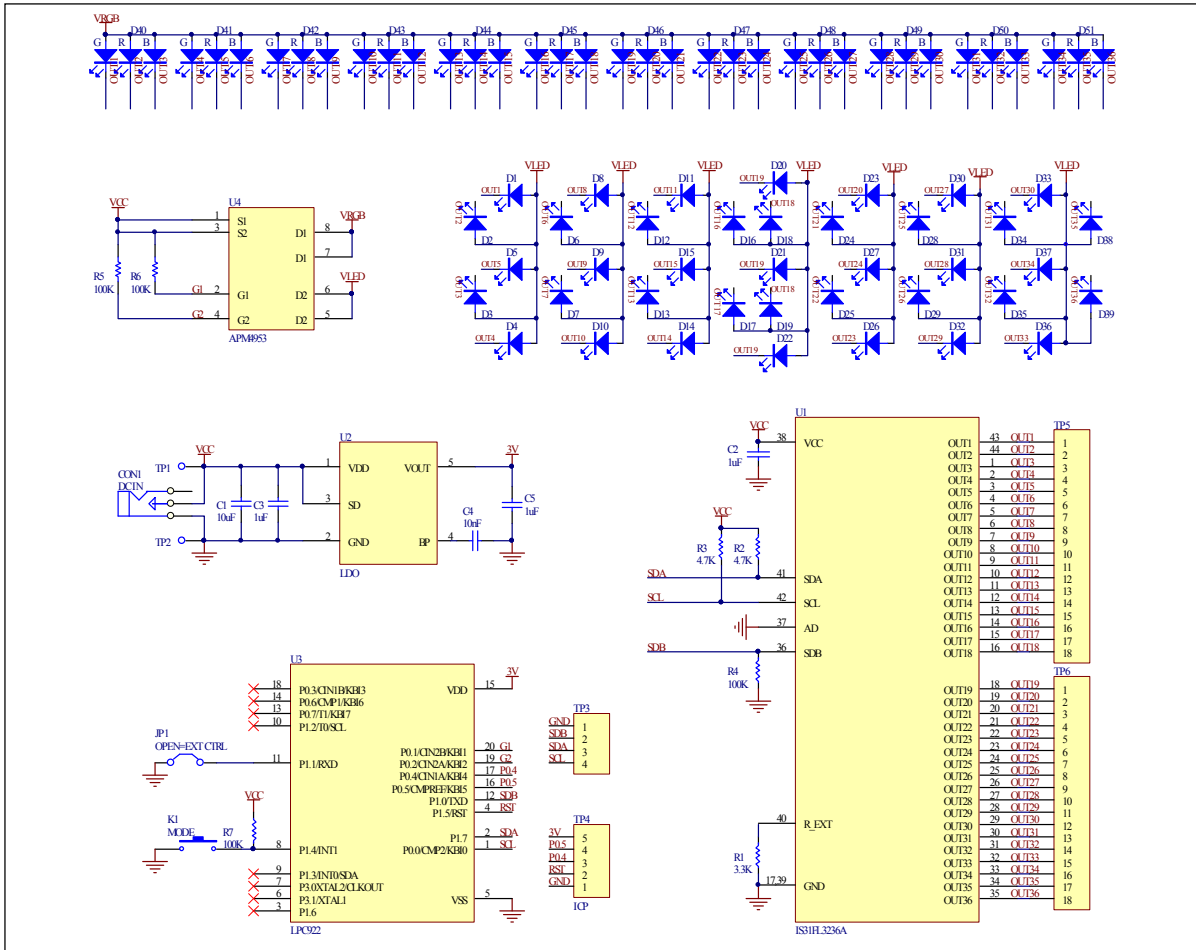

Figure 10: IS31FL3236A Application Schematic
*Bill of Materials, refer to Figure 10 above.*